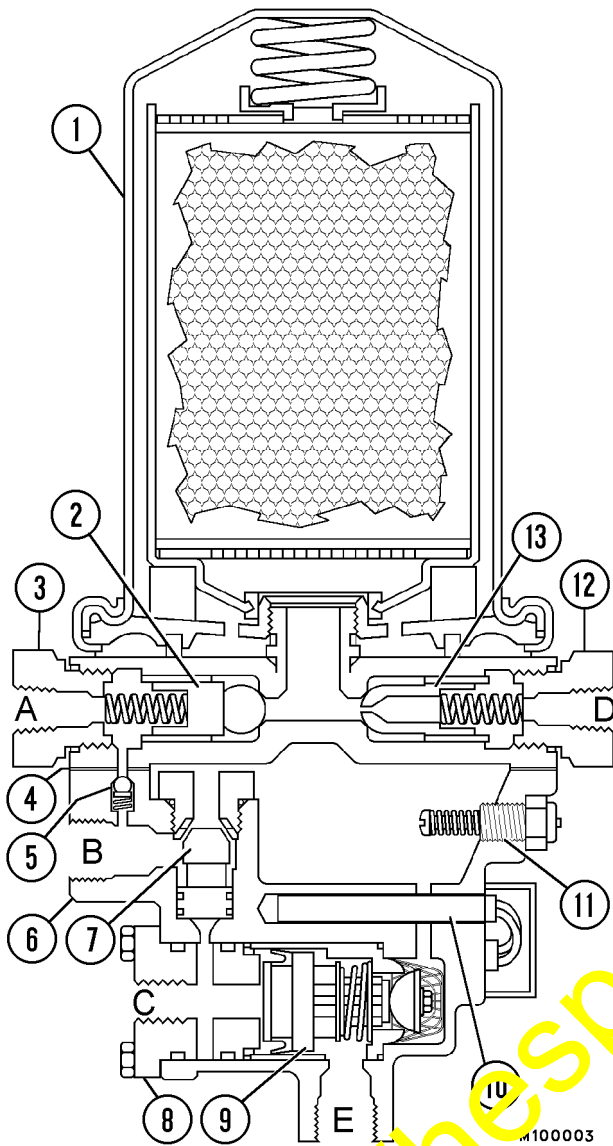

Figure 11. Turbo 2000 Air Dryer
Refer to Figure 11 for Valve Locations:
2. Using a strap wrench, turn the desiccant cartridge (1, Figure 11) counterclockwise and remove it. Discard cartridge.
3. Remove check valve nut (3, Figure 11).